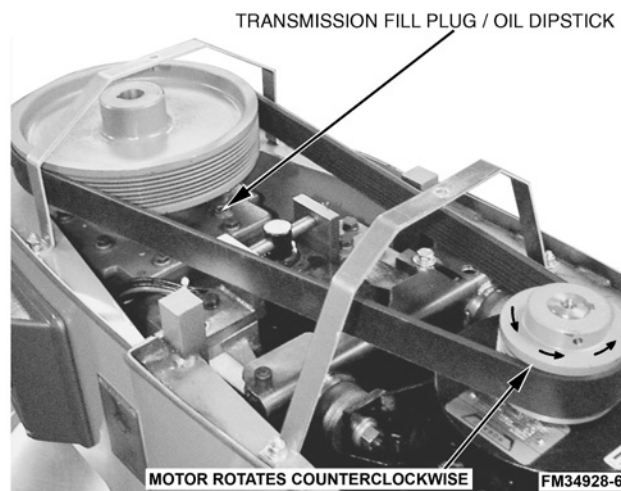

Fig. 2
This mixer is shipped with oil in the transmission. Check oil level before starting mixer (Fig. 2). Refer to Lubrication on page 16 for applicable lubrication procedures.
3. Verify that the motor is turning counterclockwise (Fig. 2). If not, reverse any two lead wires.